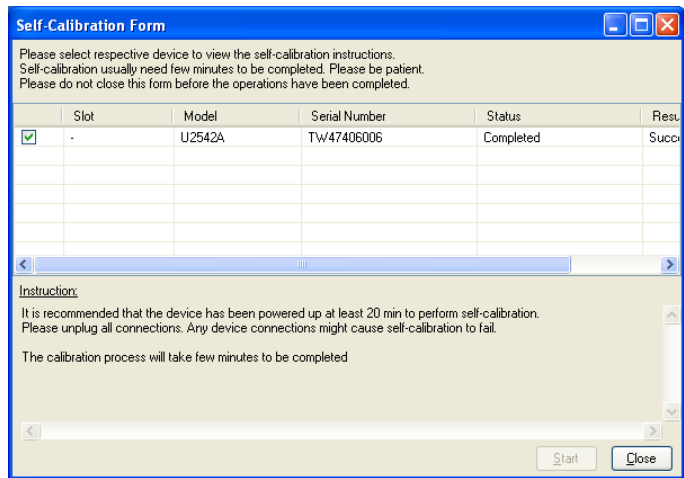

Figure 2-11 Self Calibration Form dialog box in Agilent Measurement Manager showing the status and result of the self-calibration process
- 6 The calibration process will take a few minutes to be completed. Once done, the status and results of the process will be displayed as shown in Figure 2-11.